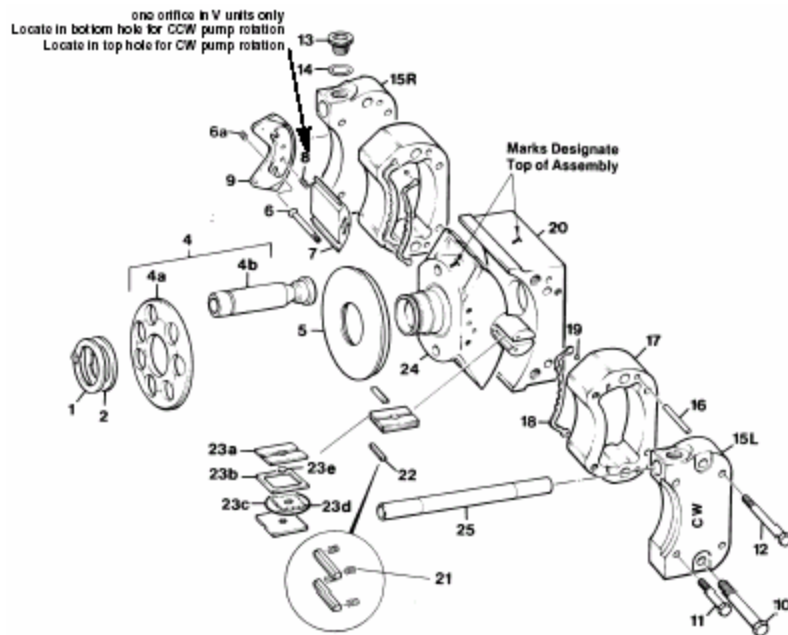

Figure 3
## PARTS LIST FOR FIGURE 3 rocker cam, pistons and retainer
## CAM/CRADLE ASSEMBLIES items 6 through 24, figure 3
## PISTON/SHOE/RETAINER ASSEMBLIES item 4 figure 3
**See Figure 3.** Position the cradle (20) on a clean flat surface with the large flat area down.
Install assembled cartridge in slot in cam as indicated in figure 3. Repeat on opposite side of cam.
For "P" and "D" units, install two orifice screws (8) in the servo stem (7). For "V" units, install one orifice, as indicated in Figure 3.
| 5    | Rocker cam and stroking assembly    | See Fig. 3   | 1     | 1     |